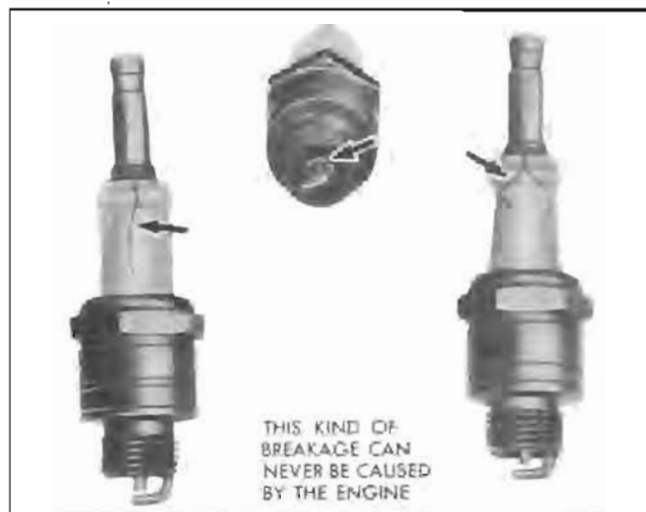

Figure 10-70—Broken Spark Plug Insulators
1. Use a  $\frac{13}{16}$ " socket wrench to remove all spark plugs. An oversized or worn wrench may distort the spark plug shell and crack the insulator. If socket wrench is allowed to press against the outer end of plug, the insulator will be cracked or broken. See figure 10-70.